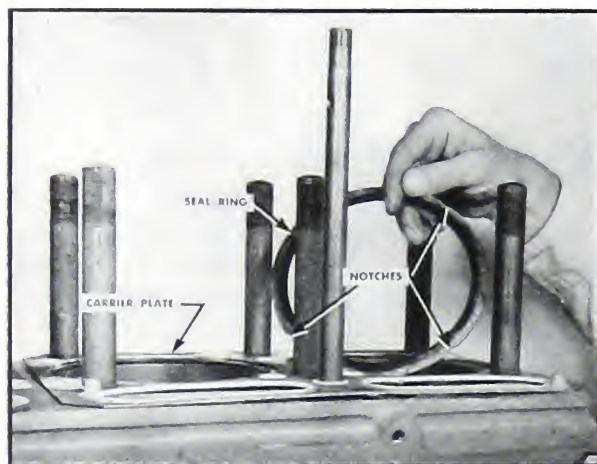

Fig. 12-3. Installing the carrier-plate gasket
1. Install the carrier-plate over the head studs and check to see that all grommets center around their mating water or oil holes. See Fig. 12-3.